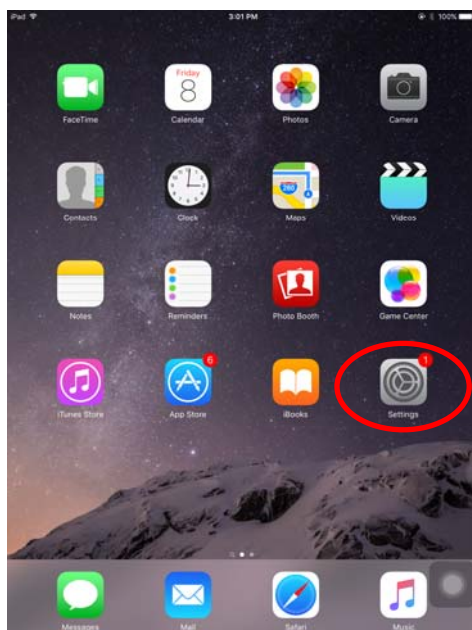

Figure 33
1.1 Enter into the “Settings” of the system, as shown in Figure 33.